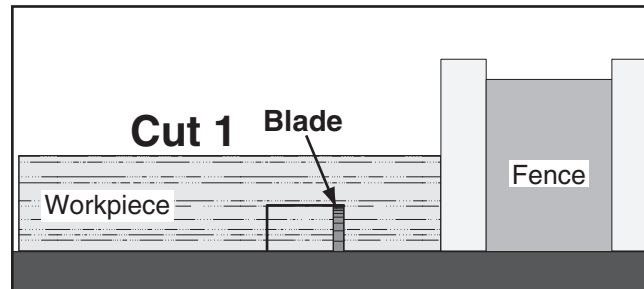

Figure 71. First cut for a single-blade dado.
5. Align the blade to cut one of the dado sides, as shown in **Figure 71**.